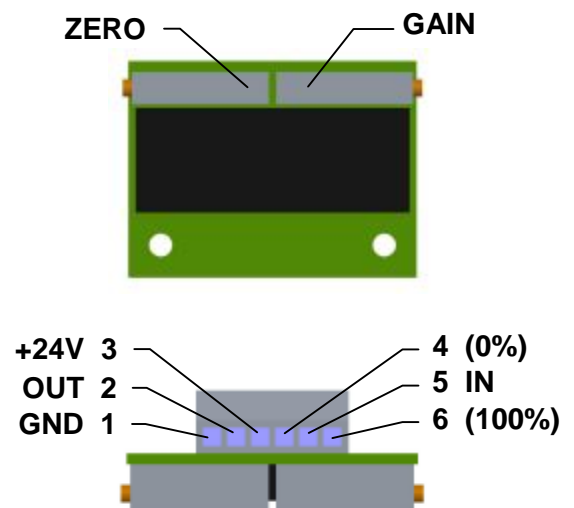

Fig.11
4.6.2 EPV – 3-wire version (Fig. 11)